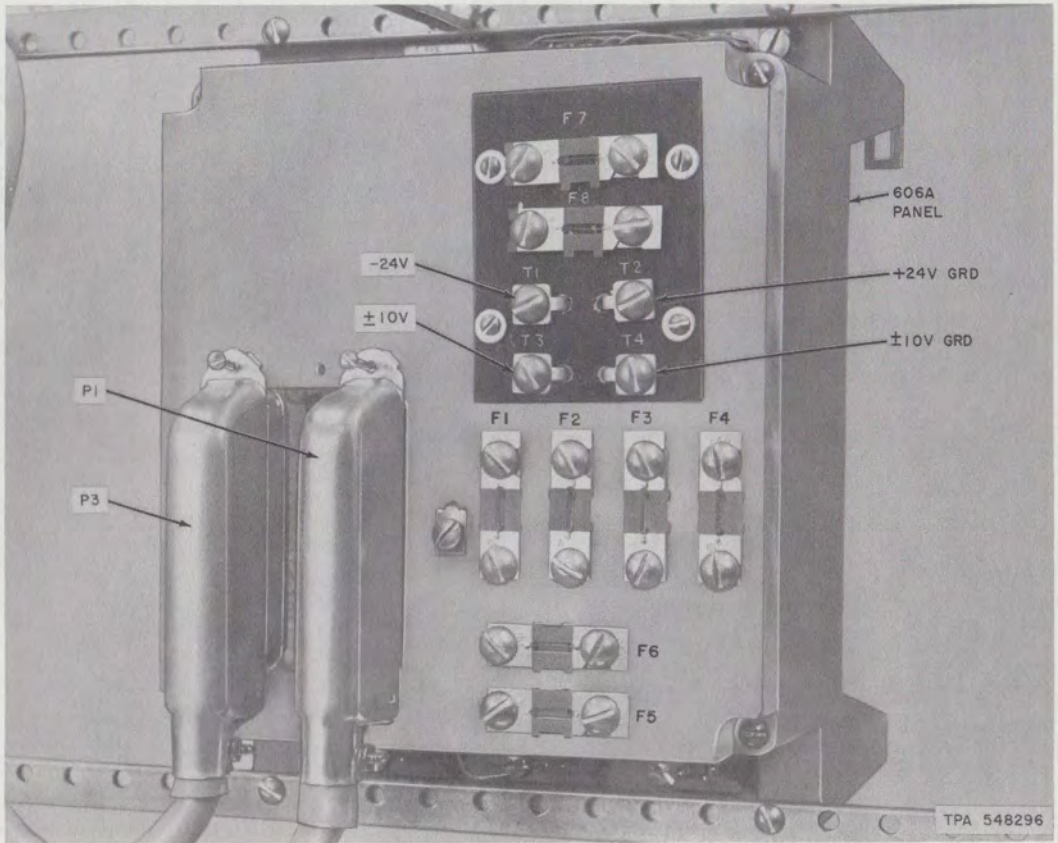

Fig. 5—606A Panel (Rear View)
**3.12** Two A25B connector cables are used to connect the 606A panel to the 66B4-25 intermediate connecting block. The A25B connector cables plug into the back (P1 and P3) of the 606A panel (Fig. 5).
**3.18** Power supply (supplied locally, if required) connects to the rear of the 606A panel as shown in Fig. 5. Refer to the appropriate section in Division 518 for proper grounding of power plants.
**6.05** Power supply (supplied locally) connects -24V to T1 and GRD to T2 (Fig. 5) on rear of 606A panel. Power supply (supplied locally with fusing) connects to rows 9 and 10 on the 66B4-25 connecting block for the 69H apparatus mountings.